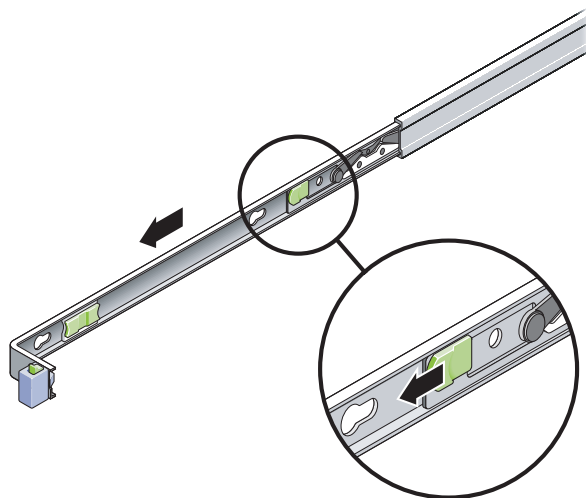

FIGURE 3-24 Location of the Mounting Bracket Release Button
- c. Slide the mounting bracket release button in the direction shown in FIGURE 3-24, then slide the mounting bracket out of the slide rail.